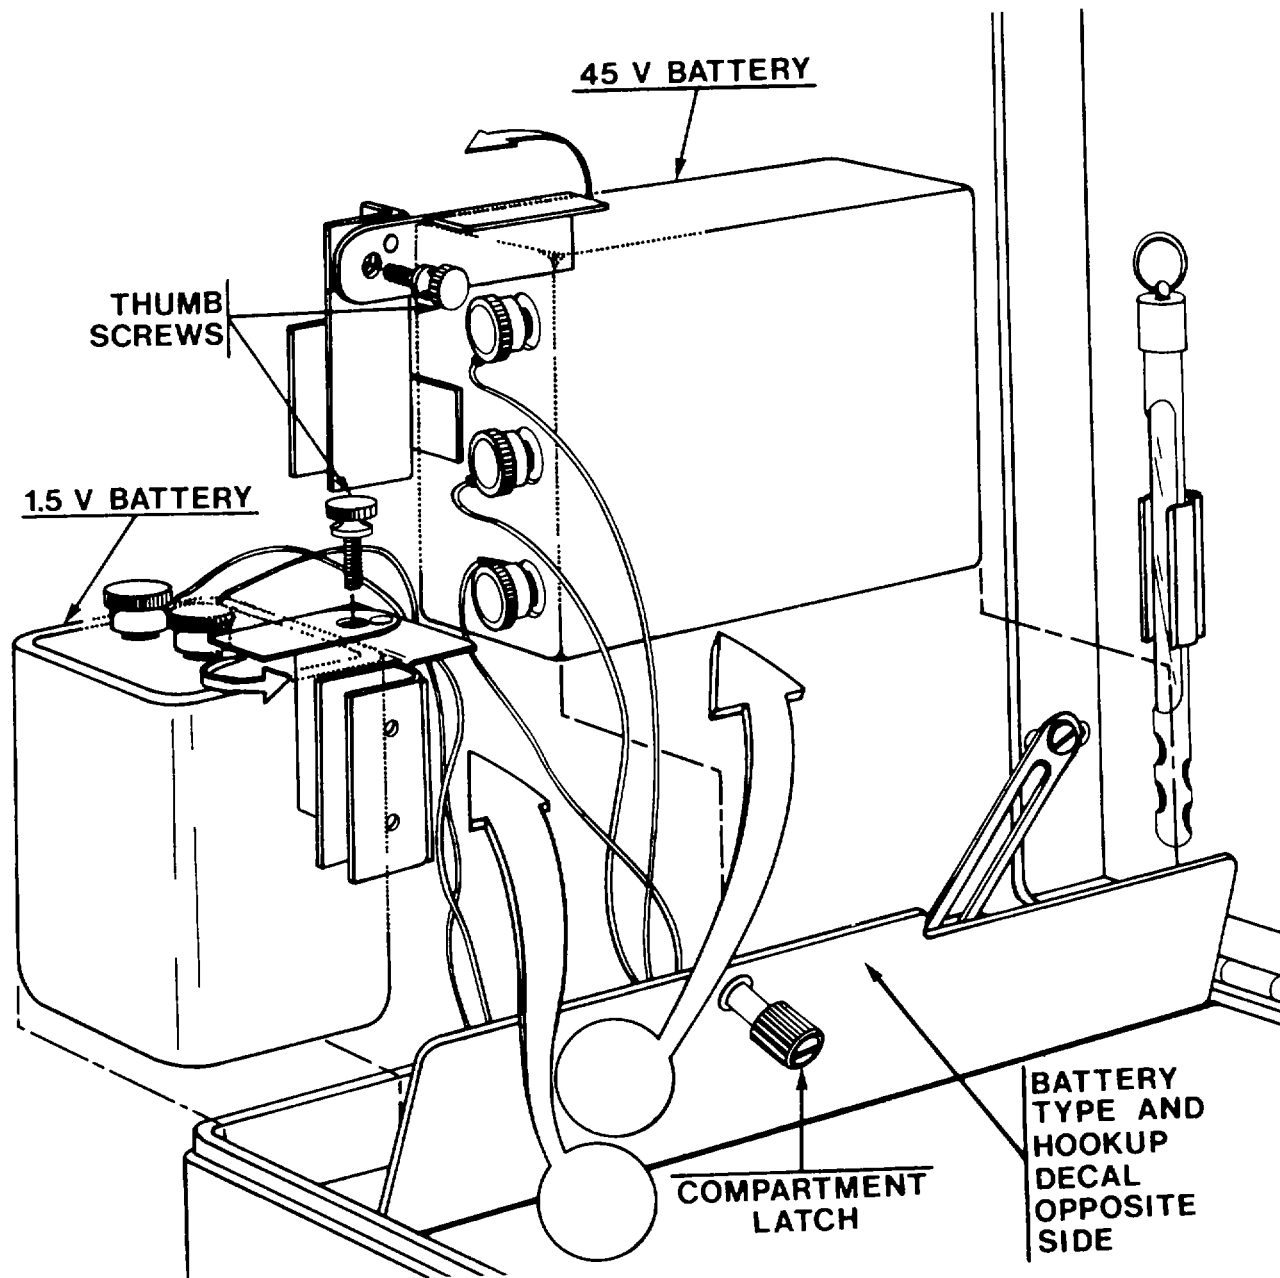

Figure 3-1. Tester Battery Compartment
b. The proper orientation of the two batteries at installation is shown in Figure 3-1. The spade lugs located at the ends of the five colored leads are attached to the battery terminals as depicted in Table 3-1. The two thumb screws are removed and the two battery latches are rotated out of the way for battery installation in the compartment. The latches are returned to their original position and the thumb screws replaced before the compartment latches are secured.